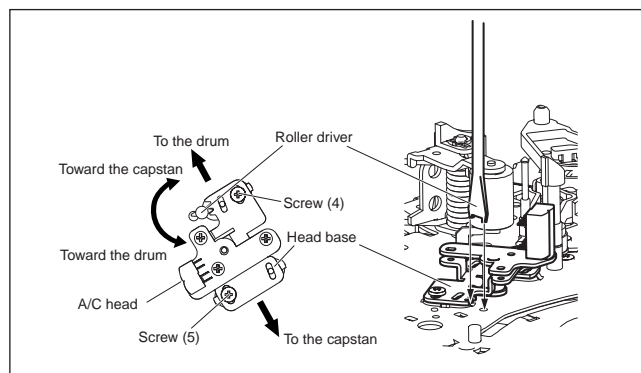

Fig. 3-2-4a
- (1) Play back the alignment tape (A1).
- (2) Apply the external trigger signal to D,FF (E), to observe the V.PB FM waveform at the measuring point (D).
- (3) Set the VCR to the manual tracking mode.
- (4) Loosen the screws (4) and (5), then set the Roller driver to the innermost projected part of the A/C head. (See Fig. 3-2-4a.)
- (5) Rotate the roller driver so that the A/C head comes closest to the capstan. From there, move the A/C head back gradually toward the drum until the point where the FM waveform is maximized for the second time, and then tighten the screws (4) and (5) temporarily.
- (6) Play an alignment tape (A2) and set to the manual-tracking mode.
- (7) Fine-adjust A/C head base position to maximize the FM waveform, and then tighten the screws (4) and (5) firmly.
- (8) Play alignment tapes (A1) and (A2) and confirm that the FM waveforms are maximized when the tracking is at the center position.